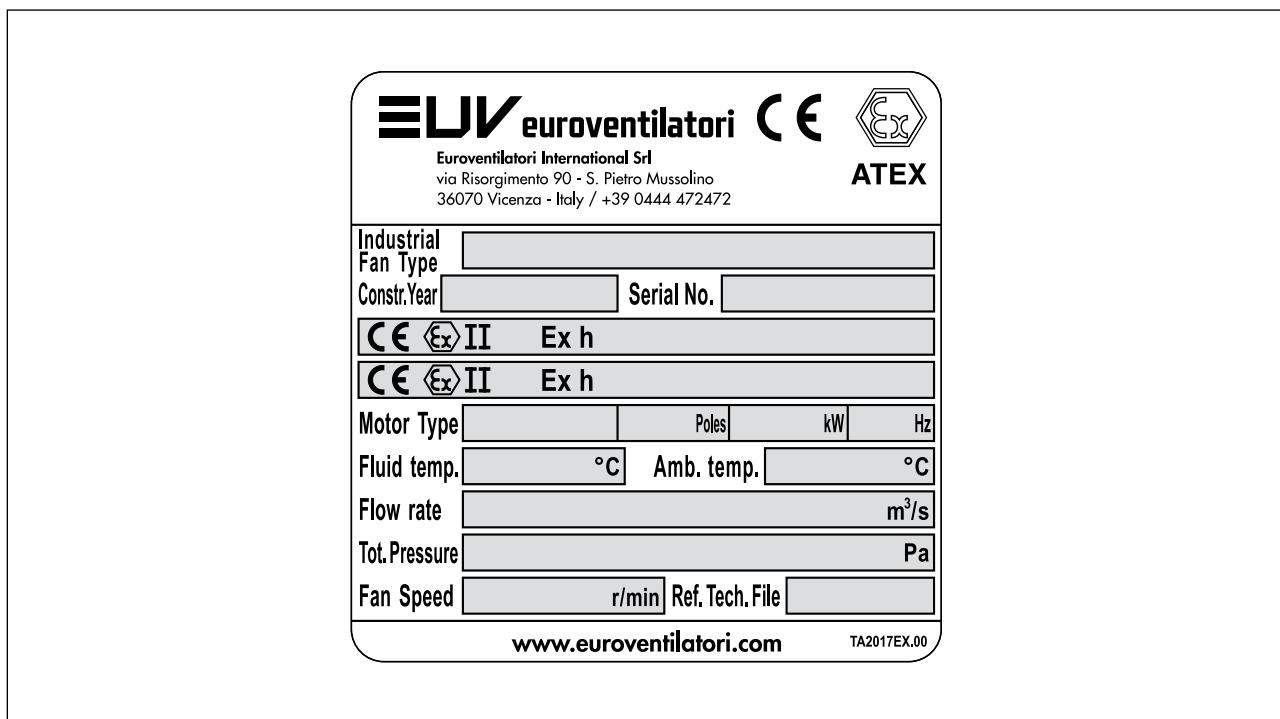

FIG. 2 (ATEX rating plate)
1.3.2- ATEX rating plate (FIG. 2)
The “ATEX” plate (FIG. 2) applied on all fans complying with the ATEX Directive, bears the following data in legible and indelible way in English: